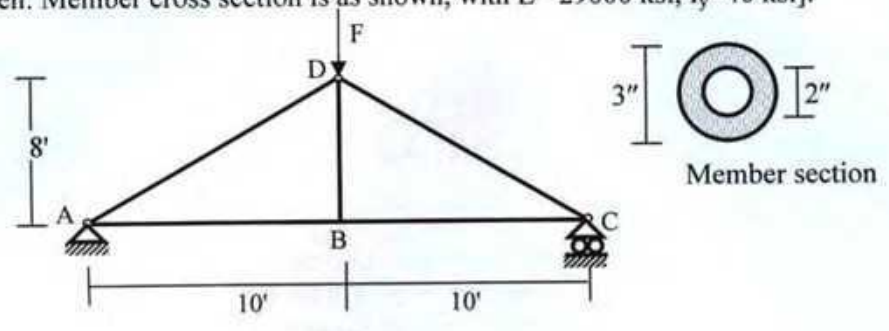

Fig.11
12. Use the AISC-ASD criteria to calculate the allowable value of F to avoid buckling of any member of the truss shown in Fig. 11 [Given: Member cross section is as shown, with $E= 29000 \text{ ksi}$, $f_y=40 \text{ ksi}$].